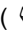

*Fig. 52: Insert process connection (inlet)*
4. ➤ Insert the process connection (inlet) into the device body (inlet) (Fig. 52)